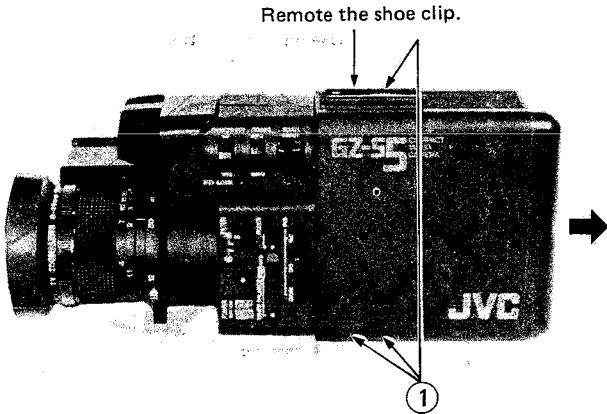

Fig. 1-1 Removal of outer panel
Loosen the shoe screw on the top panel and remove the shoe clip. Next, remove three screws ① (two on the bottom and one on the top), and then pull the panel in the direction of the arrow to remove it. (See Fig. 1-1.)